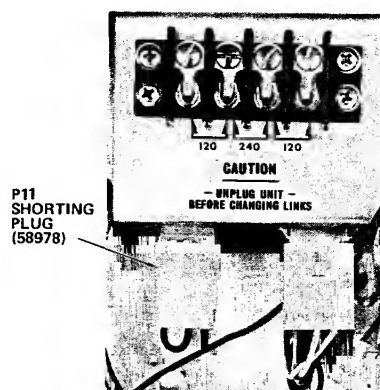

FIGURE 4
The 5302 mixer can be operated from either a 120 V AC or 240 V AC, 50/60 Hz source. The line voltage selector terminal strip, TB1, Figure 4, changes the primary connections of the power transformer. Use the following procedure to change the voltage range:
3. Remove the Molex shorting plug, P11, JBL part No. 58978 from the termination bracket, Figure 4.